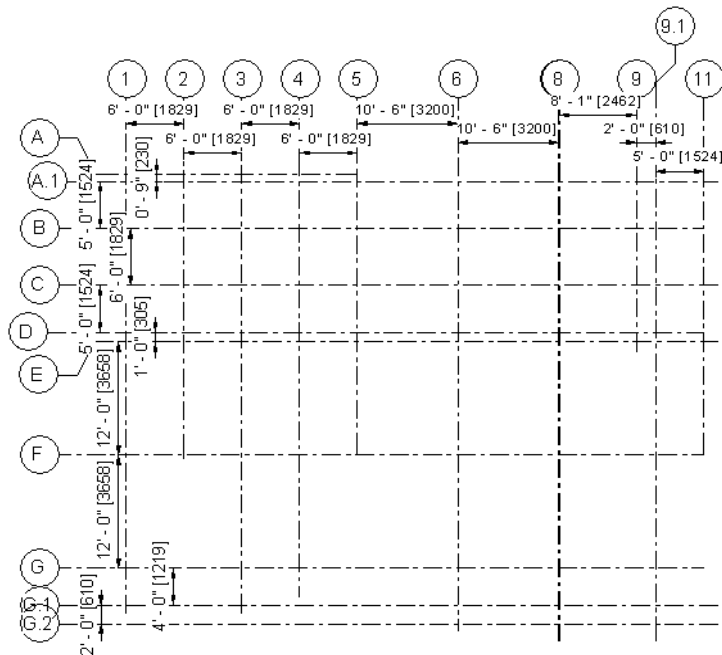

Figure 3-66 The grid lines with new names for the Academic Institution structure
In this exercise, you will create project information for the project created in the Exercise 1 of Chapter 2. Further, you will add levels and grids to the project file. Refer to Figure 3-66 for grid dimensions and names. Use the following project specifications:
7. Grids to be added to the **Entry** project view using the dimensions and names as shown in Figure 3-66.